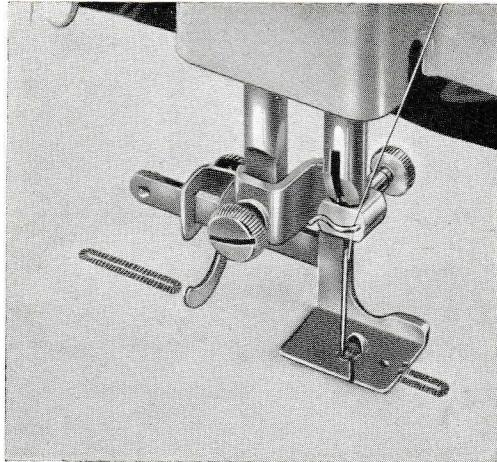

Fig. 15
Thanks to his patented device for displacing the needle in straight working to the left or to the right, a quick and exact work can easily be obtained. Button holes can be sewn with or without a reinforce thread, but it is advisable to use it, as the holes will last longer. To make button holes, the special foot (fig. 15) with plate-C must
When the special foot is fitted at the place of the ordinary foot and the work is in the right position (fig. 15) with the width of the stitch at a minimum (and the reinforce thread in its hole), the hem 1 (fig. 16) can be sewn, and then at the required length, which can be fixed with the index T of the device (fig. 15), the needle is left in the stuff from the right side and the work is turned with the stuff presser bar raised contrary to the hands of the watch in order to avoid having to pass the stuff below the arm of the machine (2), (fig. 16), so that the button hole already sewn is guided in the groove at the right side of the foot; then make a stitch so as to bring the needle quite to the left (3, fig. 16) by drawing slightly the work towards yourself and by stretching out the reinforce thread. By removing the width of the stitch to a maximum (lever R to the right against the index) and by lowering the stuff presser bar, the first end of the button hole is made (4, fig. 16). In the same way (lever R against the plate) are made the second side (5, fig. 16) and the second end (lever R to the right against the index).